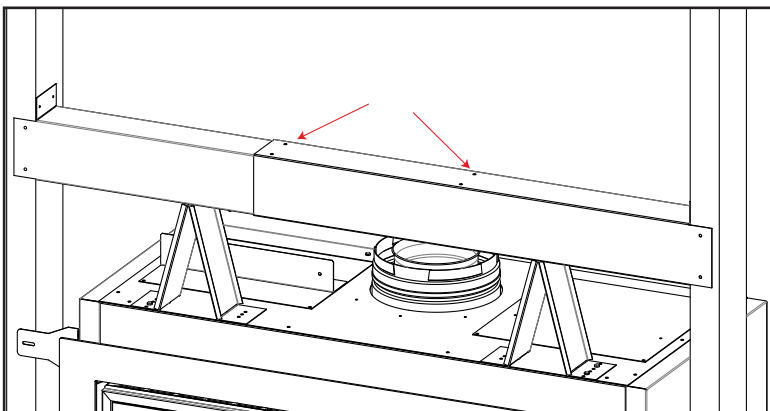

Figure 29: Steel Stud Installation
3. Using the provided sheetmetal screws, attach the two steel stud pieces together using the labeled holes in Figure 29. This should be done on the top and bottom of the steel stud to ensure its rigidity.